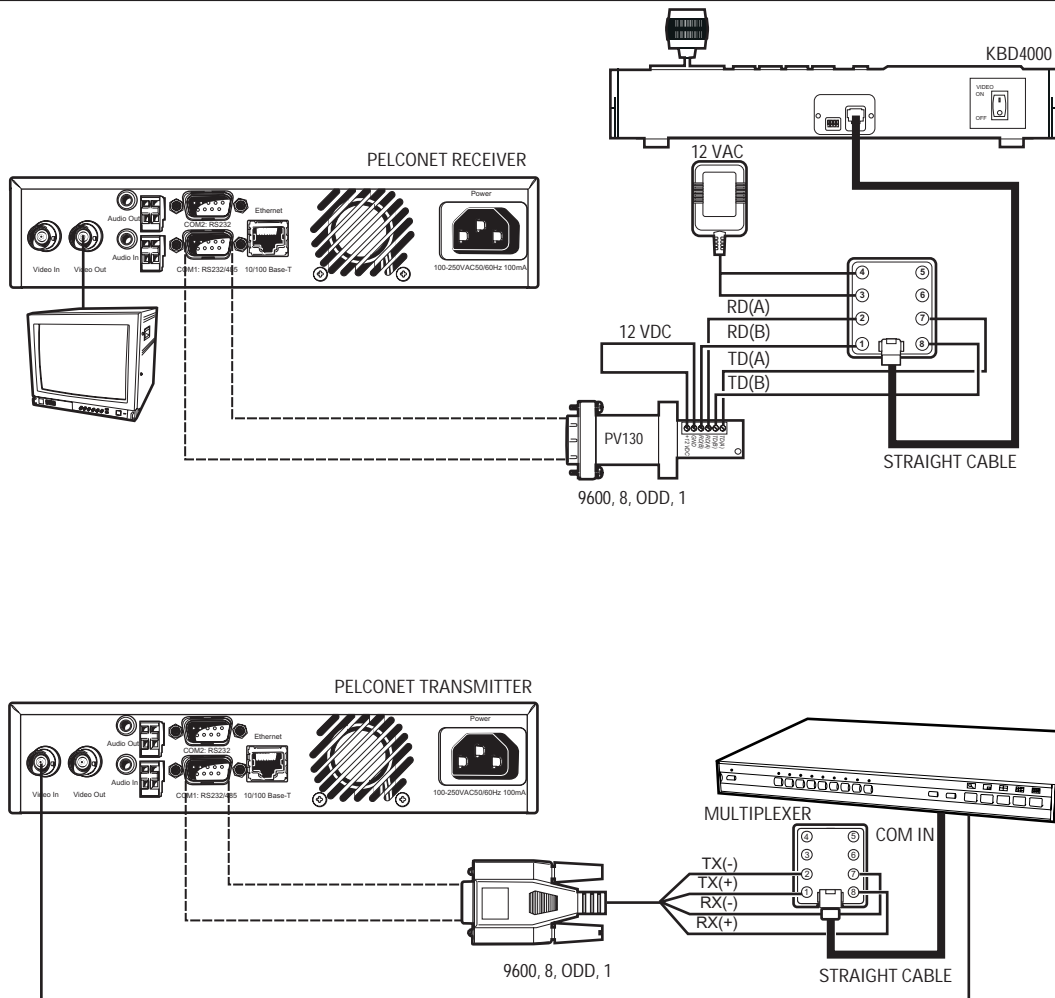

Figure 46. KBD4000 Connected to a Multiplexer
Refer to Figure 46 and the instructions that follow.
3. Connect TD(A) on the converter to terminal 7 on the wall block. Connect TD(B) on the converter to terminal 8 on the wall block. Connect RD(A) on the converter to terminal 2 on the wall block. Connect RD(B) on the converter to terminal 1 on the wall block.
7. Refer to Figure 44 and Figure 46. Splice the customer-supplied DB9 cable into the multiplexer wall block. Connect TX- from the NET4001A to terminal 2 on the wall block, TX+ to terminal 1, RX- to terminal 7, and RX+ to terminal 8.